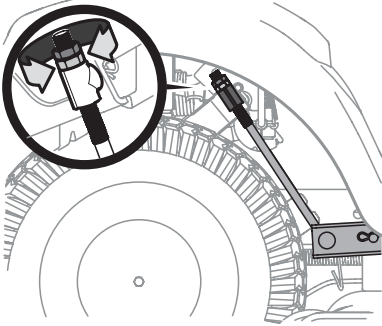

Figure 36
3. Under the rear fenders inside the wheels there is a lift adjustment rod for each side of the deck. See Figure 36.